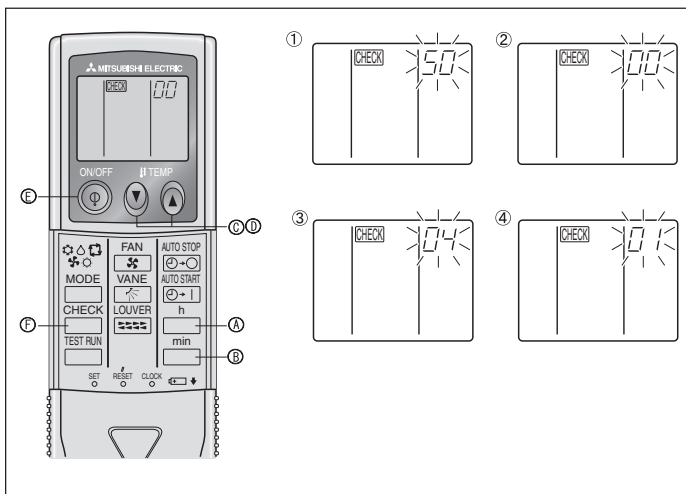

Fig. 6-7
- Press the MODE button (E) and mode and the setting number (1) and (2) will change to being on constantly and the contents of the setting can be confirmed.
- Press the FILTER (A) and TEST RUN (B) buttons simultaneously for at least two seconds. The function selection screen will disappear momentarily and the air conditioner OFF display will appear.
2) For IR wireless remote controller (Fig. 6-7)